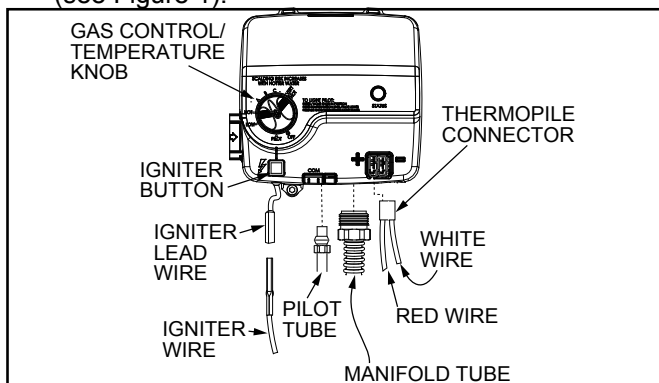

Figure 32
1. Turn the gas control/temperature knob to the "OFF" position (see Figure 30 and Figure 32).
4. Disconnect the igniter wire from the igniter lead wire. Use needle nose pliers to disconnect the thermopile connector. Disconnect the pilot tube (7/16" wrench) and manifold tube (3/4" wrench) at the gas control valve/thermostat (see Figure 32).
4. Disconnect the following from the gas control valve/thermostat: pilot tube (7/16" wrench), igniter wire (from the igniter lead wire), and manifold tube (3/4" wrench) (see Figure 32).
5. Use needle nose pliers to disconnect the thermopile connector from the gas control valve/thermostat (see Figure 32).
6. Reconnect the manifold tube (3/4" wrench) and pilot tube (7/16" wrench) to the gas control valve/thermostat (see Figure 32). Do not cross-thread or apply any thread sealant to the fittings.
7. Connect thermopile connector to the gas control valve/thermostat (see Figure 32).
8. Reconnect the igniter wire (see Figure 32).